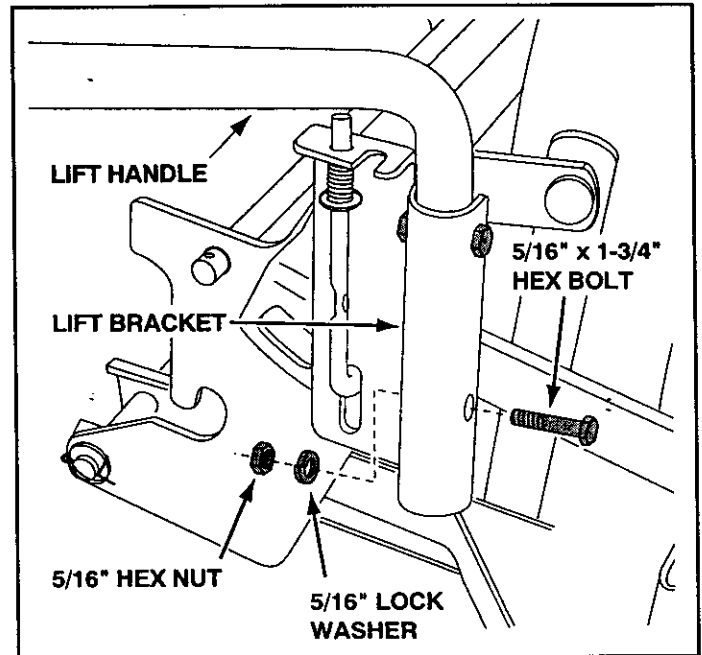

FIGURE 9 RIGHT SIDE VIEW
- Place the lift handle into the lift bracket on the right side of the snow thrower. Fasten the handle to the bracket using two 5/16" x 1-3/4" hex bolts, 5/16" lock washers and 5/16" hex nuts. See figure 9.